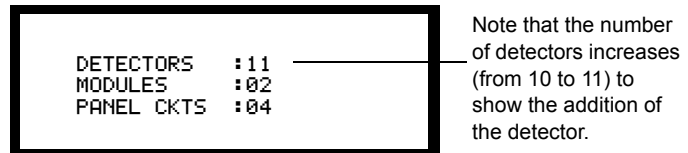

Figure 60 Sample Autoprogram Summary Screen
5. The Autoprogram Summary screen appears. You can verify addition of the detector to the program by noting the new count of detectors as shown in Figure 60.
The Autoprogram Summary screen appears. You can verify removal of the detector from the program by noting the new count of detectors as shown in Figure 60.